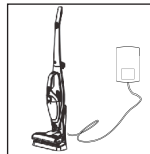

Fig. 8
- Plug the tip of the power cord into the socket in the charging station (22), then connect the power cord to the mains according to the parameters given in the manual - Fig. 8.